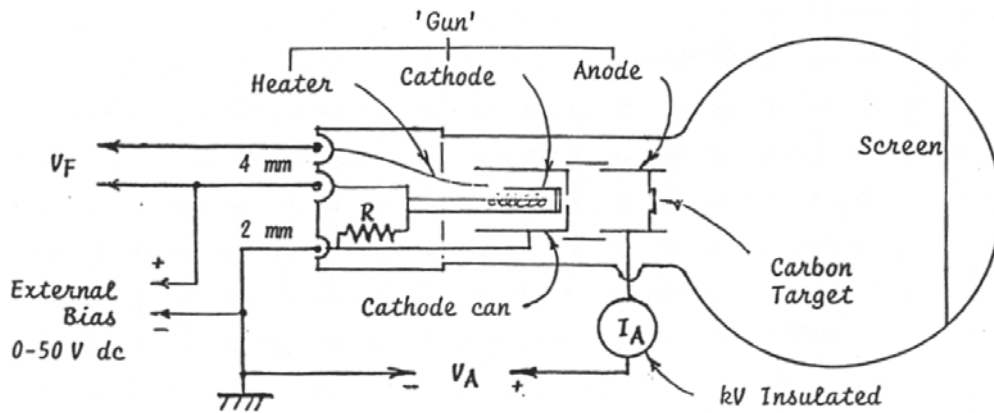

Figure 2 Wiring diagram for the Teletron 555 electron diffraction tube. The filament current should not exceed 0.2 mA!
The wiring diagram of the Teletron 555 is shown in Figure 2. There are three circuits that need to be connected: filament heater supplying  $V_F$ , accelerating potential  $V_A$ , which accelerate the electrons emitted from the heated cathode to the carbon target. The external bias ( 0-50 V) focuses the electron beam and allows for the diffraction pattern to be visible at lower accelerating potential. You will adjust the external bias voltage to obtain an optimal result.
1. When you walk into the room you will find that the circuit diagram from Figure 2 is already set-up. Without turning any of the power supplies on, you need to verify the connections and to make sure that you understand the correspondence between the diagram in the figure and what you see in the set-up.